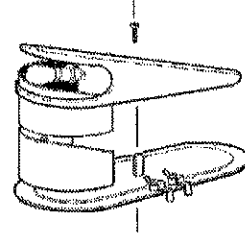

figure 17
- 3 - Replacement of lighted top cover bulb: remove the fixing screw placed in the upper part of the top cover, remove the lower part and replace the bulb (using a 24-28V 21W max bulb). Reassemble the top cover and replace the fixing screw.(vedere figure 17)